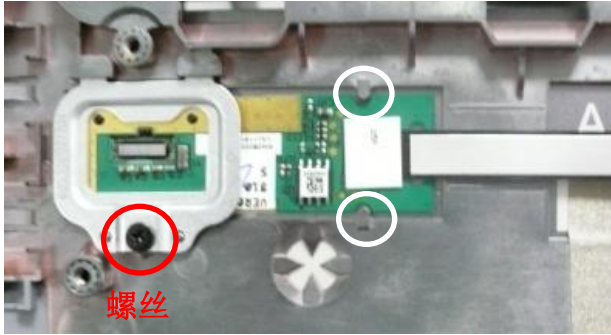

Fig.1
1. Loosen screw - M2x3 (6052A0035101) * 1, then remove the bracket (6053B0927201). (Fig.1)
2. disassembly finger printer (1397B0168801). (Fig.1)